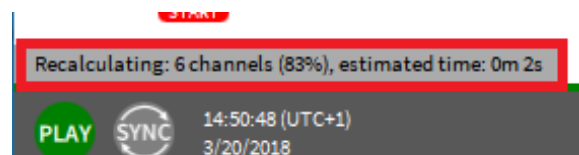

Fig. 7.173: Progress indicator for Offline Math calculations
- A *Progress indicator* will inform about the actual calculation progress (see Fig. 7.173) and contains information about the number of calculated channels, the calculation progress in percent and the remaining calculation time: